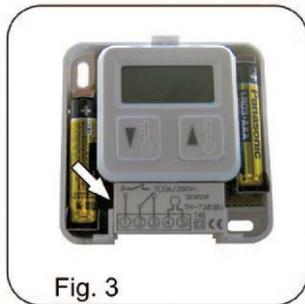

Fig. 3
- › Remove the terminal cover to get access to the terminals by pushing a small flat screwdriver into the gap from the front and push the tab toward the center to open the cover. Pull the cover straight up (see figure 3).